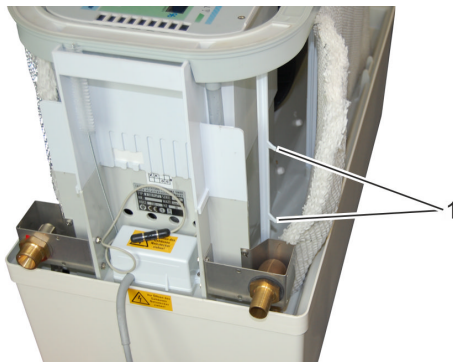

Fig. 31: Fastening the filter
6. ➔ Fasten the filter to the attachment hooks (Fig. 31/1) on both sides.